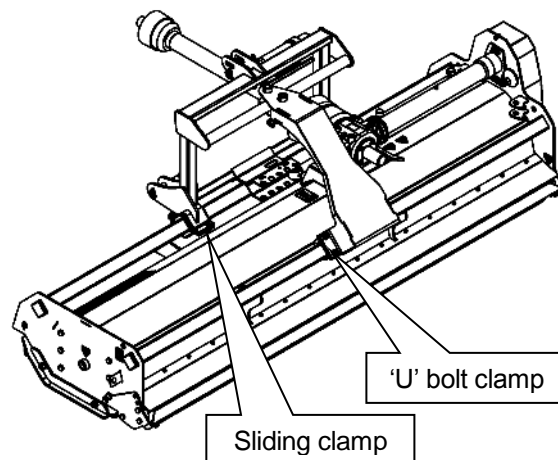

Figure 1.9
- 1.5.1.2 PTO driven machines are normally supplied configured for rear mount and 1000rpm PTO drive, see Figure 1.9.